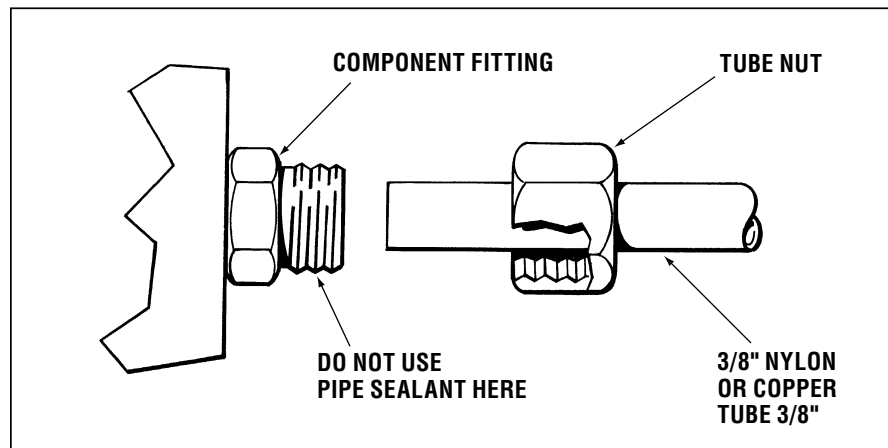

Figure 6. Connection to Helm Pump shown.
1. Refer to figure 6 on page 8 for hose/tube to fitting connection.